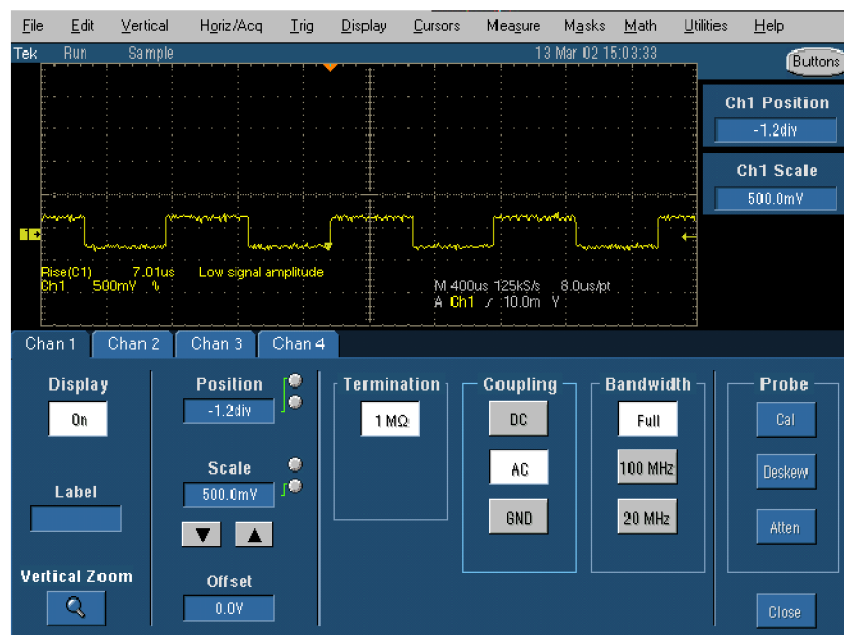

Figure 11: Typical waveform at AC Coupling
- Set Coupling to AC, and set trigger level to 50%. The resulting waveform should appear as shown. (See Figure 11.)